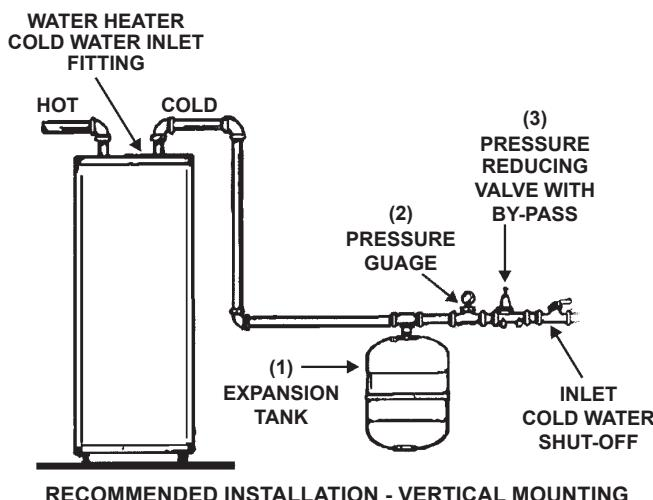

FIGURE 1.
2. The items which should be installed in the cold water line, in sequence from the water heater, are (1) the EXPANSION TANK (2) a PRESSURE GAUGE and (3) a PRESSURE REDUCING VALVE, if required. See Figure 1.
Figures 1 and 2 above show the correct valves and fittings that you will need to install your expansion tank. A threaded (3/4 in.) water connection is supplied on the tank bottom.
- Install expansion tank, pressure gauge, and pressure reducing valve, if required, as shown above in Figures 1 and 2.